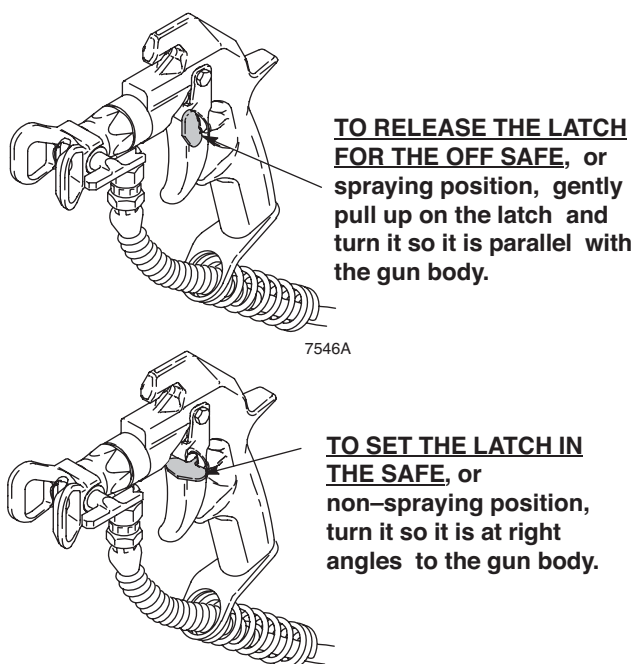

FIG. 1
- Set the trigger safety latch. (FIG. 1)
1. Set the trigger safety latch. (FIG. 1)
9. Release the trigger and set the trigger safety latch. (FIG. 1)